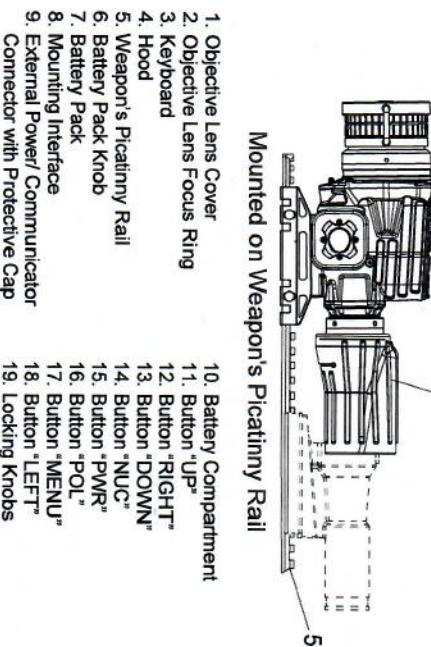

Figure 7. THERMIS Controls and Indicators.
Digital Zoom (Fig. 8/3)	After pressing the "UP" (Fig. 7/12) or "DOWN" (Fig. 7/13) Button to change the Image Enhancement Mode, the full description of the selected Mode is shown momentarily for approximately 1 second on the central top area (Notifications Area - Fig. 8/14) of the Status Screen.
The observed thermal scene is overlaid with the Status Screen (see Figure 8), which gives information to the user regarding important current THERMIS settings. THERMIS has been designed to be used primarily as a Clip-On Sight (*Clip-On Mode* is selected from the MENU - see Table 9) that operates in tandem with a Day Sight as shown in Figure 7. In this case only the central part of the OLED Display (and subsequently of the thermal scene) will be visible through the deployed Day Sight. This is the reason that the Status Screen is intentionally restricted near the center of the screen (as shown in Figure 8b). The remaining part of the OLED Display can be seen only if THERMIS is handheld, if the Day Sight is removed, or if Analog Video signal is provided to an external Screen or Head Mounted Display (select “AV” or “DUAL” in AV selection of main MENU, as described in Table 9).
CONFIG-continued	<ul style="list-style-type: none"> BPC: Allows the user to eliminate any bad pixels that have appeared on the thermal sensor during the use of THERMIS. After selecting the “BPC” field, a cross cursor appears with a dot at the center, which indicates the currently selected pixel. The navigation to the desired pixel position is done via the Arrow Buttons (“UP”, “DOWN”, “LEFT” and “RIGHT”) in a zoomed screen in order to aid the easier selection of pixels. The shown screen is only a part of the full thermal image (at 1X zoom) and the user can move beyond this screen by navigating with the cursor vertically and/or horizontally to reach all the ends of the full thermal image at 1X zoom. Quick navigation is done by long-pressing the relevant Arrow Buttons. The characterization of a pixel is changed (between “OK”: good pixel and “BAD”: bad pixel) by long pressing the Button “POL” (Fig.7/16). At the bottom left corner of the screen the position of the pixel as well as the user’s characterization of it (“OK” or “BAD”) are displayed. Note that the pixel positions start from (0, 0) and end to (639, 479) resulting to a 640 x 480 pixel’s map. For example, a (300, 50 BAD) indication means that the selected pixel is at the horizontal position 300, vertical position 50, and it is characterized by the user as bad pixel.
WARNING	<p>As long as the saving of the Bad Pixels Table takes place and the “SAVING BAD PIXEL MAP” message appears on screen DO NOT remove the Battery Pack or perform an Emergency Shut Down with the “PWR” Button, as the pixel characterization map may get severely corrupted in such a case.</p> <p>If you do not want to apply the current characterization of good and bad pixels press the “MENU” Button (Fig.7/17) and use the “UP” (Fig.7/11) or “DOWN” (Fig.7/13) Buttons to select “DISCARD”. Confirm by pressing the “MENU” Button (Fig.7/17) and THERMIS will exit the MENU without affecting the current characterization of bad pixels.</p> <p>If you want to continue the process and exit the “SAVE/DISCARD” Submenu select “RETURN” and the pixel position and characterization will again be visible on screen.</p>
Button "UP" (Fig.7/11) and Button "DOWN" (Fig.7/13)	<p>-IMAGE ENHANCEMENT MODES: Single-press the "UP" (Fig.7/11) or "DOWN" (Fig.7/13) Buttons to switch between different presets of Image Enhancement Modes (when MENU is deactivated). These Modes provide presets that may assist the advanced user in certain circumstances (depending on the conditions and tasks). They may enhance the performance of the system especially when very cold (e.g. ice), very hot (e.g. a fire) or large uniform areas (e.g. sky or sea horizon) exist in the observed scene. Note that when using the above Modes it is also normal to observe more noise in the scene, compared to the default setting.</p> <p>After pressing the "UP" (Fig.7/11) or "DOWN" (Fig.7/13) Button, the complete description of the selected Image Enhancement Mode is shown for approximately 1 second on the Notifications Area (Fig. 8/14) of the Status Screen. The selected Image Enhancement Mode is permanently presented in the right upper corner of the visible Status Screen ("ENH0" or "ENH1" or "ENH2" or "ENH3" - Fig.8/2). The available Image Enhancement Modes are:</p> <ul style="list-style-type: none"> • Basic ("ENH 0: BASE"): The default setting for images that do not need special Enhancement. • Image Sharpening ("ENH 1: SHARP"): Enhancement and sharpening of the hotter objects' edges in the ROI region. • Adaptive ("ENH 2: ADAPTIVE"): Contrast Enhancement via the separation of the image to different regions and adaptation to the specifics of each scene's region. Ideal for slightly cluttered scenes (objects with large temperature differences in the scene) or for objects appearing in front of large uniform areas. • Wide Range ("ENH 3: WIDE RANGE"): Similar to the Adaptive Image Enhancement (above) but performing more aggressive contrast Enhancement. Ideal for heavily cluttered scenes (several objects with large temperature differences in the scene) or for several objects appearing in front of large uniform areas. <p>The Image Enhancement Mode resets back to ENH0 (default value) when THERMIS is deactivated.</p>
<p>Button "MENU" (Fig.7/17)</p> <p>Button "RIGHT" (Fig.7/12) and Button "LEFT" (Fig.7/18)</p> <p>Button "RIGHT" (Fig.7/12) or "LEFT" (Fig.7/18)</p> <p>-REGION OF INTEREST (ROI) ADJUSTMENT: Single-press the "RIGHT" Button (Fig.7/12) or "LEFT" Button (Fig.7/18) to navigate between different Regions-Of-Interest (when MENU is deactivated). The observed scene will then be adjusted for optimum observation and sharper thermal image of the selected area on the screen. This is very useful when the target is located at a specific part of the screen. After pressing the "RIGHT" Button (Fig.7/12) or "LEFT" Button, the brackets (Fig.8/6) containing the selected area appear for approximately 1 second on the Status Screen (this applies only if the Digital Zoom is set to 1X). The selected Region-Of-Interest is also shown permanently as white area (symbolizing the ROI) on a gray background (symbolizing the whole screen) on an icon on the upper right corner (Fig.8/1) of the Status Screen. Note that it is normal to lose some scene details or information when they are located outside of the selected ROI area.</p>	<p>-DIGITAL ZOOM: Single-press the MENU Button to circle between 1X, 2X and 4X Digital Zoom of the observed scene. The selected Digital Zoom is presented on the right upper corner (Fig.8/3) of the visible Status Screen.</p> <p>Note that when the 4X Digital Zoom has been selected in Standalone Mode, the Reticle and the Stadiometric Data will not be visible on the Status Screen, even if they are enabled from the MENU (see RETICLE Submenu in Standalone Mode - Table 9).</p> <p>WARNING</p> <p>Aiming through the Day Sight's Reticle must only be done when the Digital Zoom of THERMIS is 1X. The 2X or 4X Digital Zoom options must only be used for observation.</p> <p>-ENTER MENU: Long-press (for 2 sec) the "MENU" Button (Fig.7/17) to enter the MENU of THERMIS. Use the "UP", "DOWN", "LEFT", "RIGHT" and "MENU" Buttons to navigate in the MENU (see Chapter 2.1.3 for details).</p> <p>-REGION OF INTEREST (ROI) ADJUSTMENT: Single-press the "RIGHT" Button (Fig.7/12) or "LEFT" Button (Fig.7/18) to navigate between different Regions-Of-Interest (when MENU is deactivated). The observed scene will then be adjusted for optimum observation and sharper thermal image of the selected area on the screen. This is very useful when the target is located at a specific part of the screen. After pressing the "RIGHT" Button (Fig.7/12) or "LEFT" Button, the brackets (Fig.8/6) containing the selected area appear for approximately 1 second on the Status Screen (this applies only if the Digital Zoom is set to 1X). The selected Region-Of-Interest is also shown permanently as white area (symbolizing the ROI) on a gray background (symbolizing the whole screen) on an icon on the upper right corner (Fig.8/1) of the Status Screen. Note that it is normal to lose some scene details or information when they are located outside of the selected ROI area.</p>
Keyboard (Fig.7/3) Button "PWR" (Fig.7/15)	<p>The Keyboard (Fig.7/3) is the basic interface with the User. All the functions of the Keyboard Buttons are analyzed below:</p> <p>-POWER OFF: Long-Press (for 3 sec) the POWER Button "PWR" (Fig.7/15) to deactivate THERMIS.</p> <p>-POWER ON: Single-Press the POWER Button "PWR" (Fig.7/15) to activate THERMIS.</p> <p>-SHUTTING DOWN: Long-Press the "PWR" Button (Fig.7/15) to deactivate THERMIS. If the "PWR" Button (Fig.7/15) is pressed for approximately 1 sec, the phrase "SHUT DOWN?" will appear on the screen. If the "PWR" Button (Fig.7/15) is released, the deactivation of THERMIS is aborted. If the "PWR" Button (Fig.7/15) remains pressed the phrase "SHUTTING DOWN" will appear on the screen and then the system will be deactivated.</p> <p>If any pending Snapshots exist in the memory they will be permanently saved in the memory of THERMIS before the "SHUTTING DOWN" indication appears on the screen.</p> <p>-EMERGENCY SHUT DOWN: Long-Press the "PWR" Button (Fig.7/15) for more than 10 seconds to cut the power to THERMIS and deactivate it. This shut down procedure is equivalent to removing the Battery Pack and it must be followed only in the unlikely case of emergency when the system doesn't respond or the observed image is frozen.</p>
(Fig.7/16)
-POLARITY ADJUSTMENT: Single-press the "POL" Button (Fig.7/16) to change the Polarity of the observed scene between "BHOT" (Black Hot: the hotter objects appear black and the colder white) and "WHOT" (White Hot: the hotter objects appear white and the colder black). Certain observation targets may look better in one of the two polarities depending on the environmental temperature and the background.
4. Remove the Objective Lens Cover (Fig.7/1).
6. Go to MENU→ RETICLE→ADJUST and use the "UP" (Fig.7/11), "DOWN" (Fig.7/13), "LEFT" (Fig.7/18) and "RIGHT" (Fig.7/12) Buttons to move the reticle towards this direction until the 200 m aiming point meets the MPI:
A. Use the "LEFT" (Fig.7/18) and "RIGHT" (Fig.7/12) Buttons to adjust for windage. Moving the Reticle to the right will move the MPI to the left. Moving the Reticle to the left will move the MPI to the right.
B. Use the "UP" (Fig.7/11) and "DOWN" (Fig.7/13) Buttons to adjust for elevation. Moving the Reticle up will move the MPI down. Moving the Reticle down will move the MPI up.
3. Remove the Objective Lens Cover (Fig.7/1).
4. Single press the «PWR» Button (Fig.7/1/5) to activate THERMIS.
8. Single press the "POL" Button (Fig.7/16) to change the polarity of the observed scene. Certain observation targets may appear better in one of the two polarities depending on the environment temperature and the background.
9. If the under observation target is constantly located at a specific part of the screen single-press the "RIGHT" (Fig.7/12) or "LEFT" (Fig.7/18) Buttons to adjust the observed thermal scene to a different Region-Of-Interest (ROI) in order to be able to see more details in the selected area.
10. If you need to enhance the contrast between the object and the background, or if you want to see more details when large temperature differences or large uniform areas exist in the scene, use the Image Enhancement algorithms by single-pressing the "UP" (Fig.7/11) or "DOWN" (Fig.7/13) Buttons to switch between different Image Enhancement Modes.
11. When the uniformity of the observed image is lost single-press the "NUC" (Fig.7/14) button for a Quick NUC or cover the Objective Lens and long-press (for 2 sec.) the "NUC" (Fig.7/14) button. In both cases, the observed scene will "freeze" for a fraction of a second until the NUC is finalized.
2. Single press the «PWR» Button (Fig.7/15) to activate THERMIS.